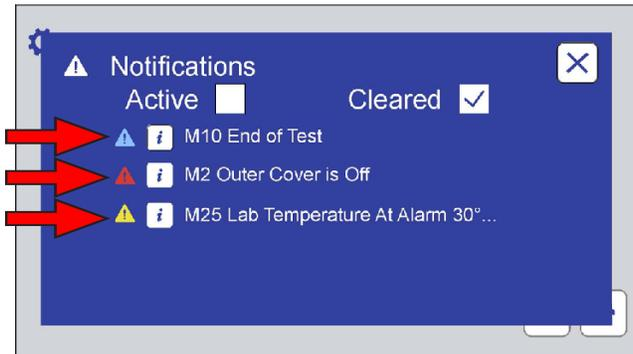

Figure 11.5e: Color coded icons show notification type.
- Color-coded attention icons indicate the type of notification (Figure 11.5e).